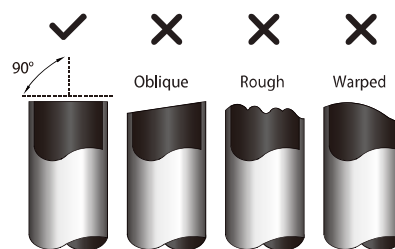

Fig. 5.1
3. Make sure that the pipe is cut at a perfect 90° angle. Refer to Fig. 5.1 for bad cut examples.